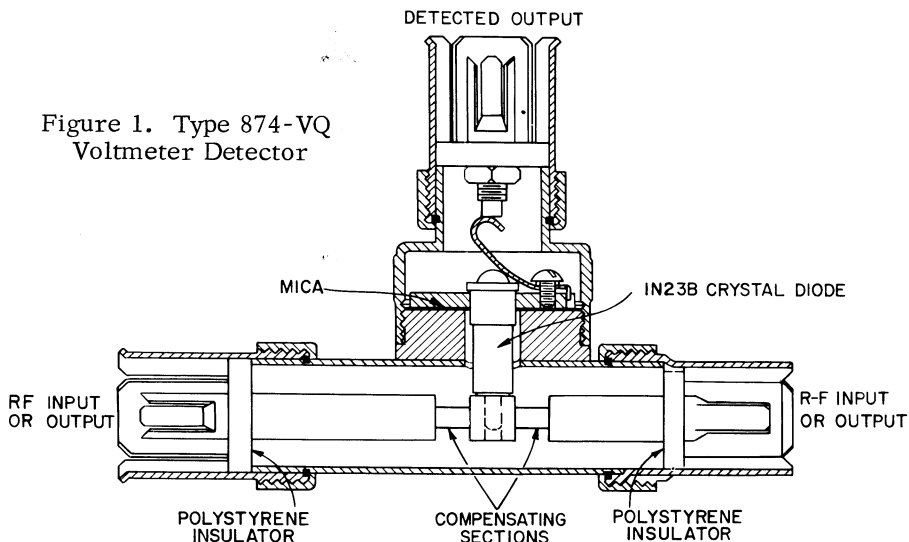
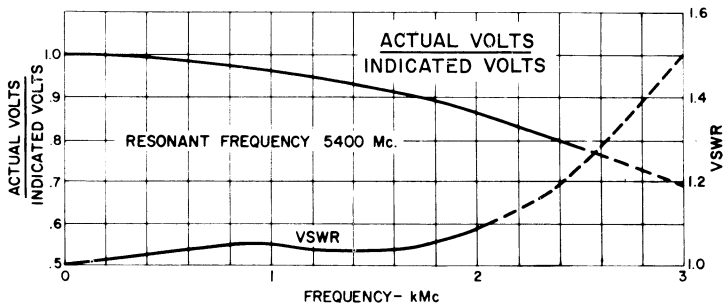
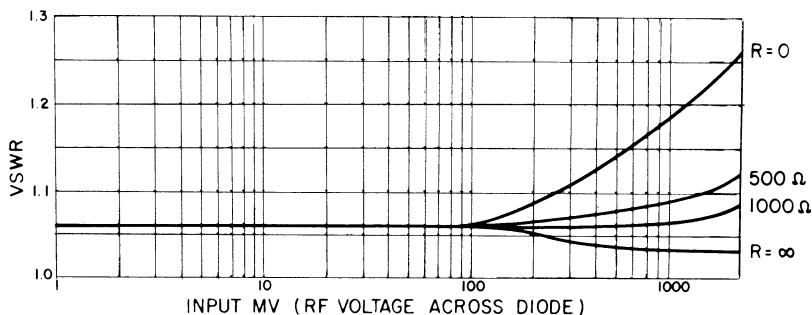

Figure 1. Type 874-VQ
Figure 3.
Figure 4.
1.1 PURPOSE. The Type 874-VQ Voltmeter Detector (Figure 1) can be used, in conjunction with a Type 874-VI Voltmeter Indicator, for measuring voltages from 0.1 to 2 volts. When used with a tuned audio amplifier such as the Type 1232-A Tuned Amplifier, the Voltmeter Detector is a sensitive detector (approx 100 μv) of modulated signals, or, with a microammeter, as an rf detector up to 2000 Mc. It can also be used with the Type 1232-A as a video detector up to 7000 Mc, but with reduced sensitivity, especially at the resonant frequency. Full-scale sensitivity of such a system is 200 μv , or approximately -60 dbm in a 50-ohm system.
(Figures 1 and 2) correct for the discontinuity introduced by the diode. The rf is bypassed through a 300-pf mica disc capacitor, and the detected output is brought out through the shielded connector at the side of the unit. Rf terminals are electrically symmetrical, and all connectors are Type 874.
2.1 VSWR. Because of the compensating sections, the VSWR of the unit is low at frequencies up to over 2000 Mc. A typical curve, Figure 3, is measured with one r-f end terminated in 50 ohms. If the detected output is fed into an indicator with very low dc resistance and the signal level is high, the VSWR may increase as indicated in Figure 4.
of actual volts to indicated volts is given in Figure 3. The resonant frequency will increase about 10 percent at the maximum signal level, because of the rectified back voltage.
detection of high-frequency a-m signals, it must be remembered that a low resistance may affect the VSWR (see Figure 4). The bandwidth can also be increased by a decrease in the rf bypass capacitance. To do this, insert additional mica spacers (see Figure 1 and paragraph 5.2).